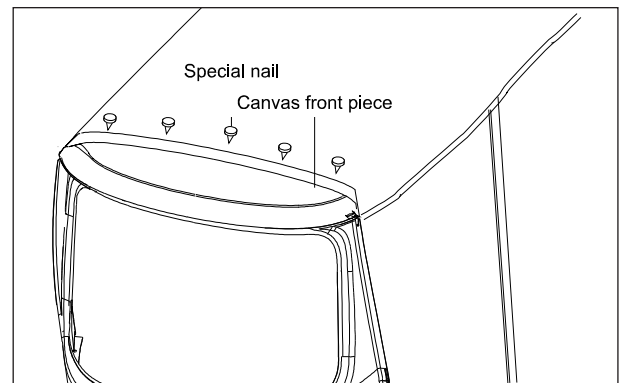

Fig. 9.17
- Stretch the soft top canvas and nail it on to the wood stick middle soft top in respective intervals as required. (Fig. 9.17)